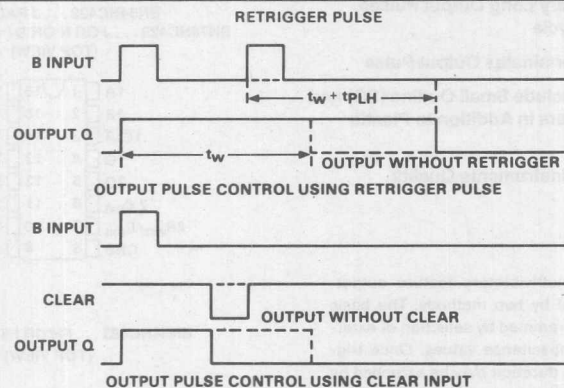

FIGURE 1—TYPICAL INPUT/OUTPUT PULSES
These dc-triggered multivibrators feature output-pulse-duration control by two methods. The basic pulse duration is programmed by selection of external resistance and capacitance values. Once triggered, the basic pulse duration may be extended by retriggering the gated low-level-active (A) or high-level-active (B) inputs, or be reduced by use of the overriding clear. Figure 1 illustrates pulse control by retriggering and early clear.